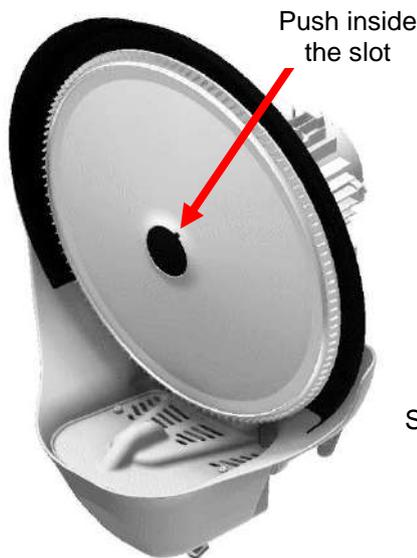

Fig. 4.4.1
- Remove the central cap of the rotating disc by levering it into the recess with a small slotted screwdriver (Fig. 4.4.1).